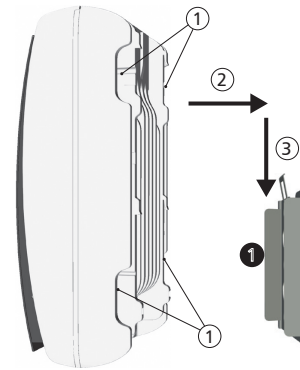

Figure 26
1. Pick up the inverter by its handles ① or edges, place it in the middle of the mounting plate ① and press in gently ② (Figure 26).
2. Lower the inverter ③ until the retaining plate on the mounting plate clicks audibly into place.